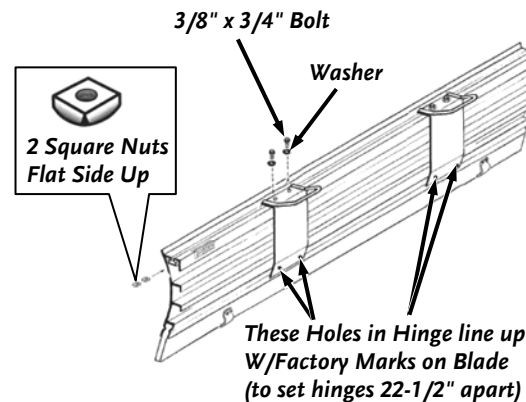

Figure 4
7. Insert 2 square nuts in channel at end of blade and slide them over to line up with holes at top of slide hinge (**Figure 4**).